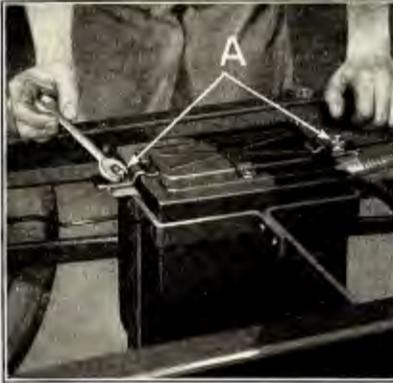

Fig. 41
- (a) Run off the two battery clamp bolt nuts (See "A" Fig. 41) and lift off battery box cover.